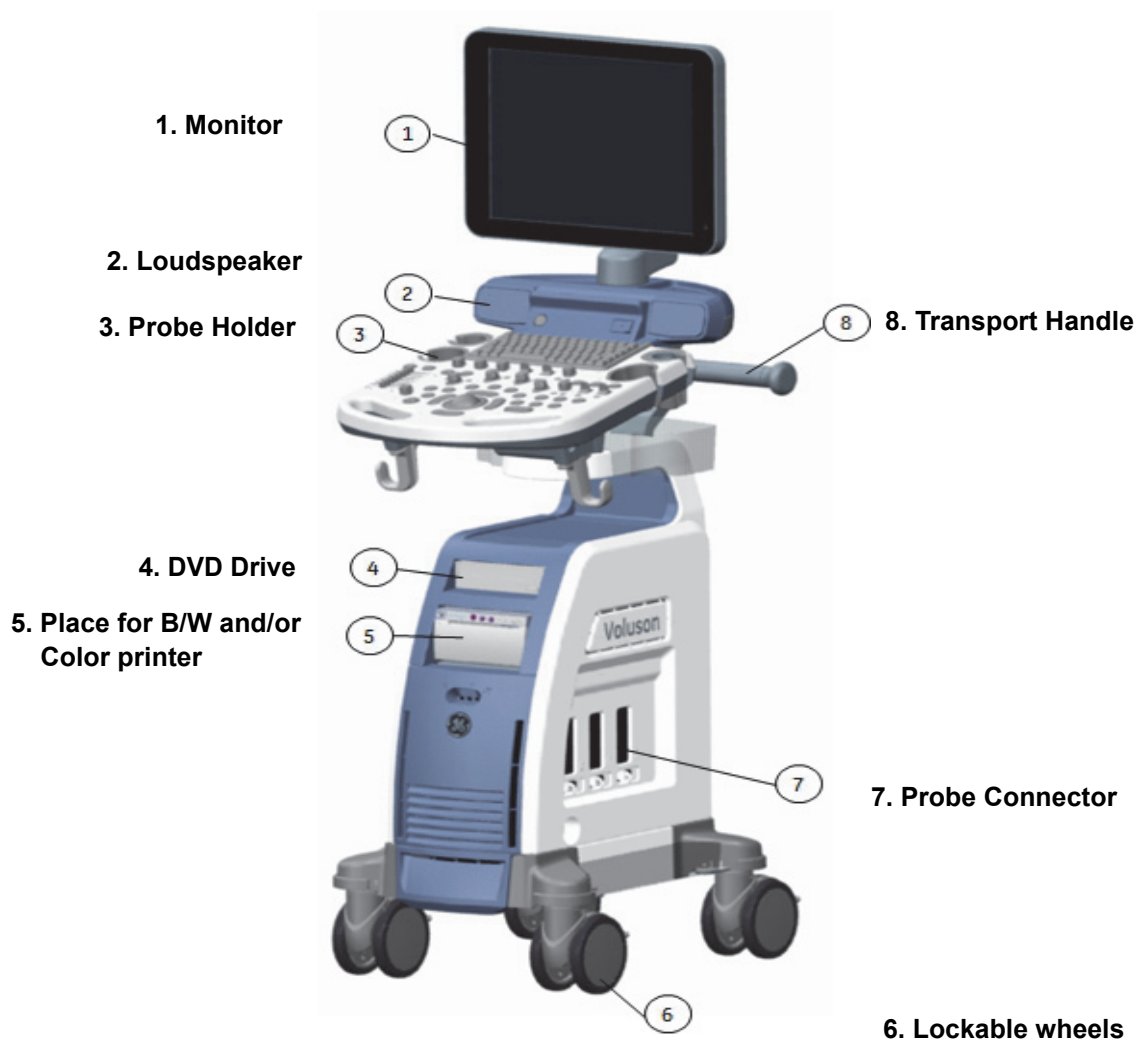

Figure 5-1 Voluson™ P8/Voluson™P6 Major Components
- System mechanical chassis: trolley to keep all major components Figure 5-1 on page 5-2